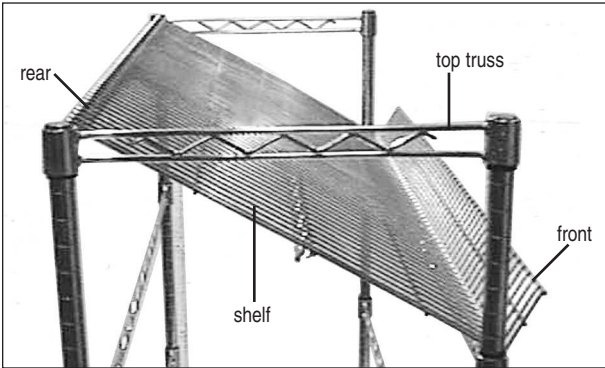

figure 5
- B Rest front of shelf on front of bottom truss. Shelf should be approximately at a 30° angle as shown in *figure 5*.
- Note:** Downturn of topmost shelf should hook over top truss, as shown in *figure 5*.